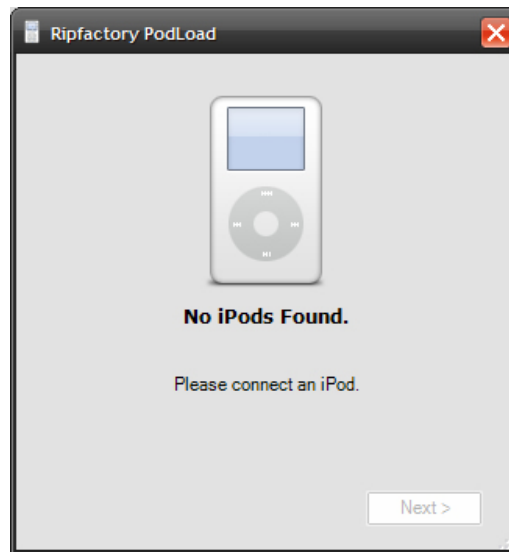

Figure 4.21 – First screen of Podload Wizard
- Click the Podload button (shown right) and the screen in figure 4.21 will appear: